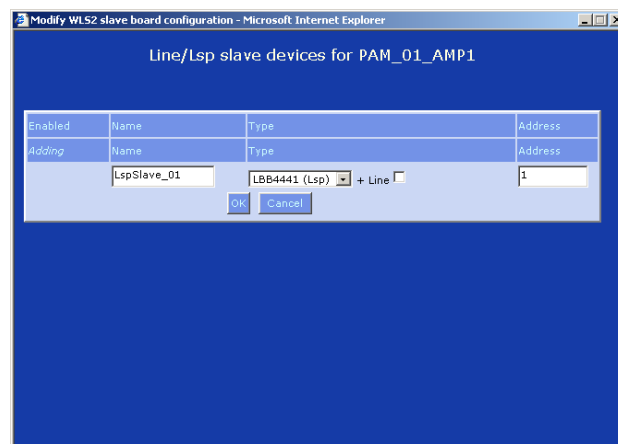

figure 34.15: Add slave device, step 3
- 3 Enter the data of the slave device (see figure 34.15 for an example).
- Enter the address that was assigned to the slave device in the *Address* field (see figure 34.15).